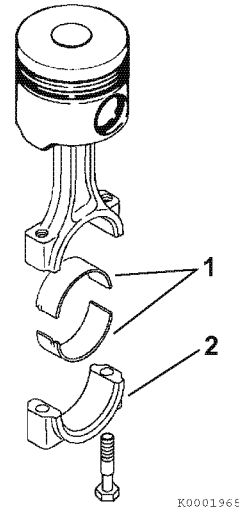

Figure 6-143
4. Reinstall the bearing inserts (1, **Figure 6-143**) in the connecting rod and cap.
6. Apply a light coat of clean engine oil to the rod cap bolts. Reinstall the connecting rod cap (2, **Figure 6-143**). Tighten the connecting rod bolts to the specified torque in two stages (1/2 then full torque). *See Special Torque Chart on page 6-21 for specifications.*